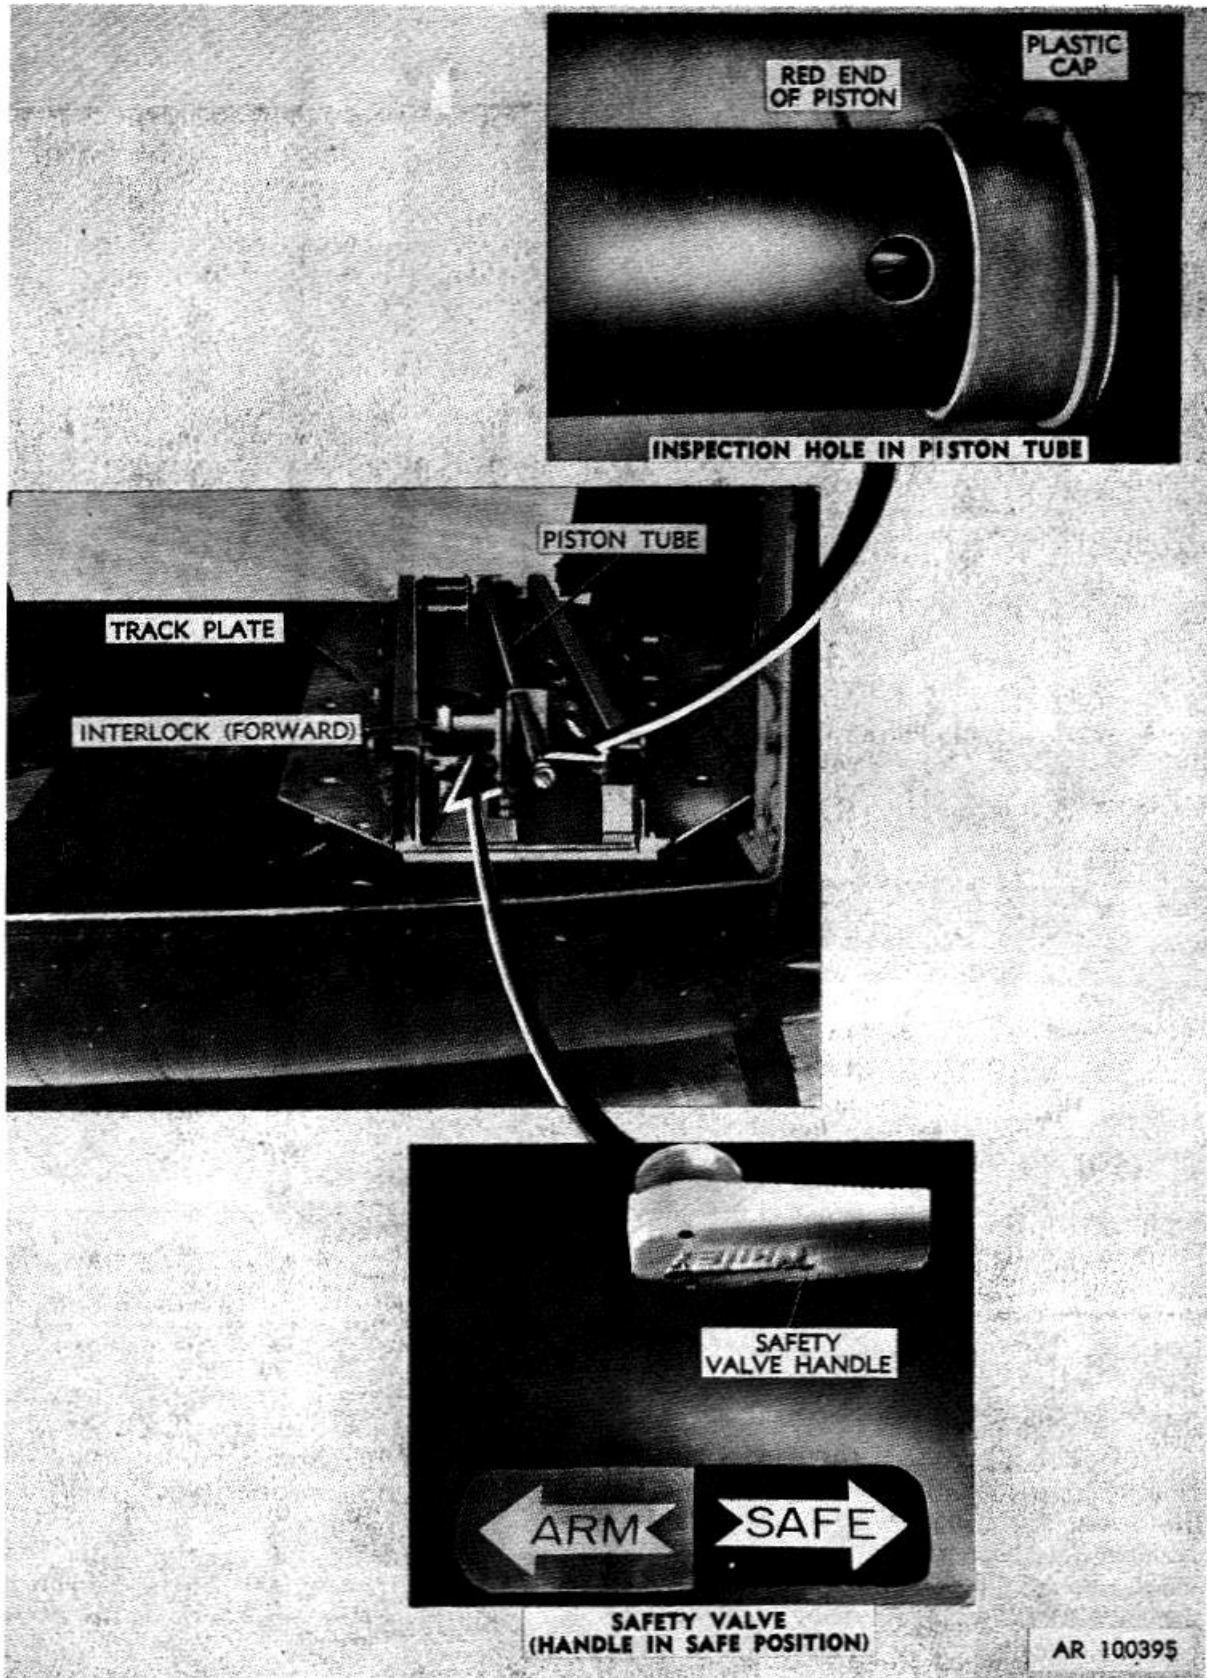

Figure 1-6. Jettison assembly of flare dispenser XM19- view from right side of helicopter.
(3) The jettison assembly (figs. 1-6 and 17) includes a track plate with rails on either side. The dispenser assembly rides on rollers which fit into the rails. Mounting points are located on the track plate to match the tiedown fittings on the